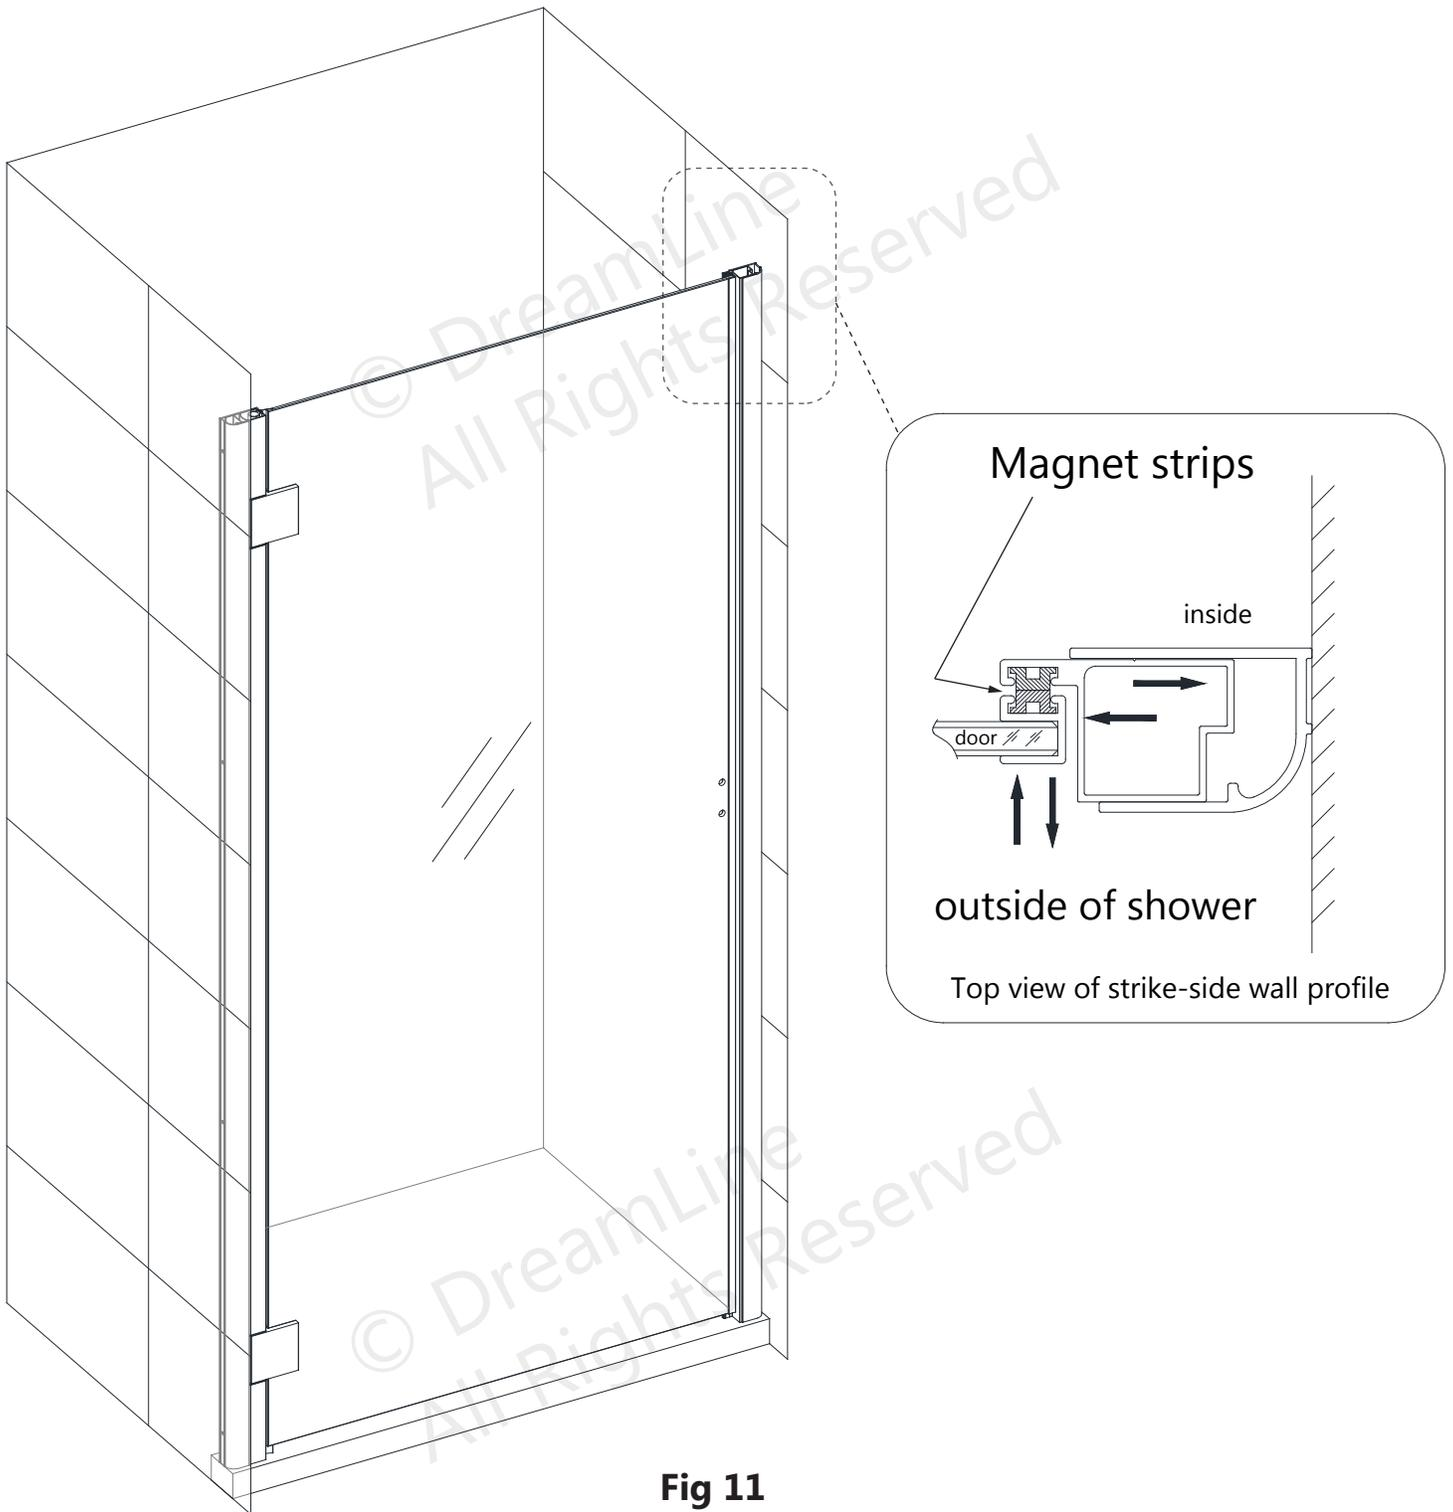

Fig 11
11. The **Strike Rail (#07)** magnet on the **Door Glass (#06)** must line up with the magnet on the **Strike Profile (#09)**. Make sure the magnets make even contact from top to bottom. **(Fig 11)**